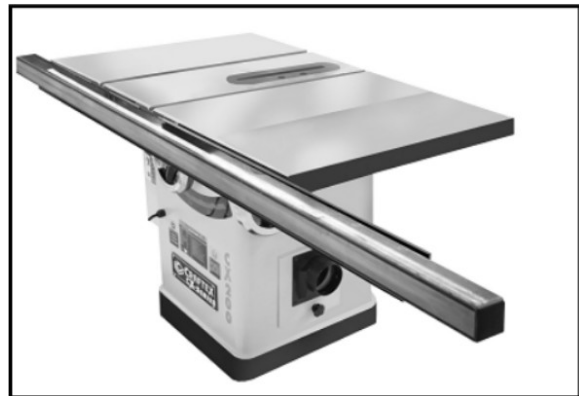

Figure 8
2.) Now install the fence rail tube onto the front rail using cap screws, washers and flat washers provided. See Figure 8.